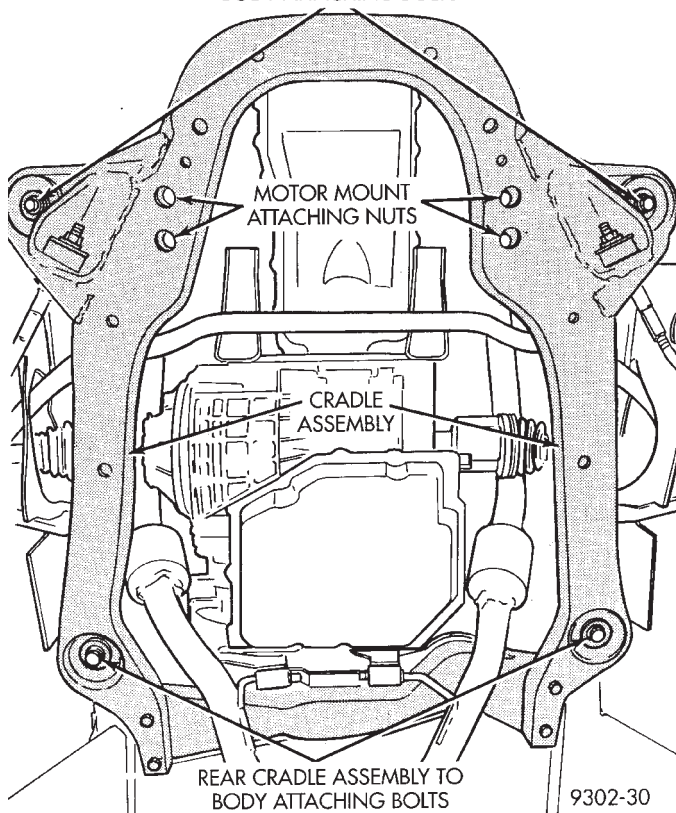

Fig. 13 Motor Mount To Cradle Assembly Attachment
(6) Remove the 4 nuts attaching motor mounts to cradle assembly (Fig. 13).